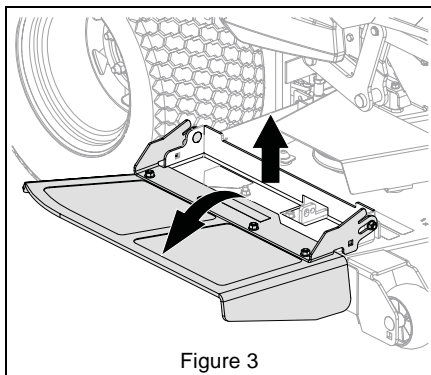

Figure 3
5. Lift discharge chute up slightly and rotate to operating position. See Figure 3.